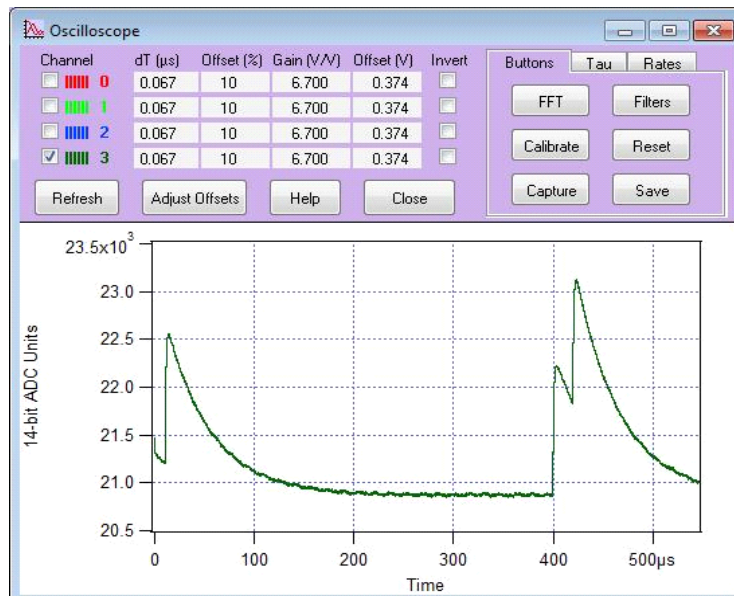

Figure 2-4: OSCILLOSCOPE panel
2. At the bottom of the PARAMETER SETUP panel, click on the **[Oscilloscope]** button. This opens a graph that shows the untriggered signal input. (Figure 2-4)